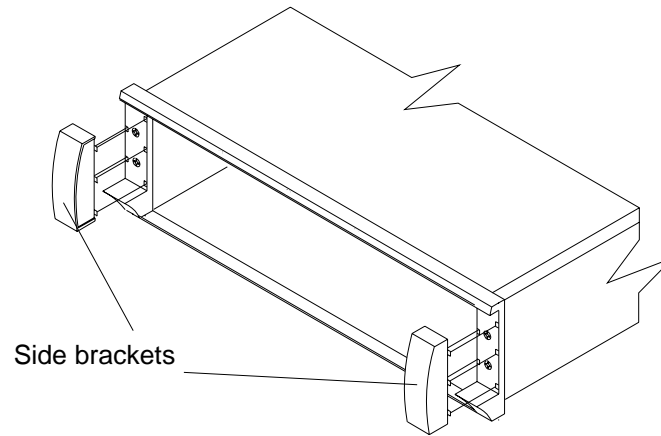

Figure 3-4 Removing the Side Brackets from the Enclosure
1. Unsnap the side brackets from the front of the enclosure (see Figure 3-4).
4. Slide the top of the front bezel over the indicator lights and snap into place (see Figure 3-4).